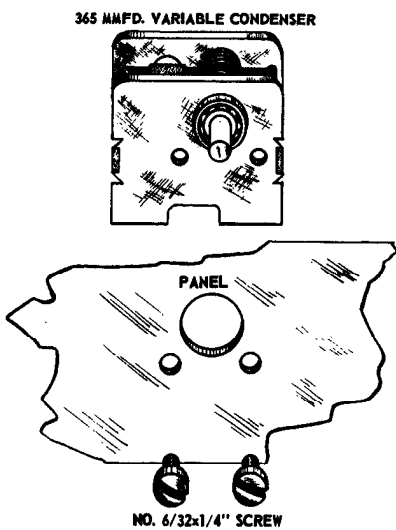

Figure 7.
- 47. Mount the FINAL PL. TUNE condenser TC-1 on the rear of the panel as per Fig. 7. Slip a #6 lockwasher over each of two 6-32x1/4" screws. Insert the screws from the front of the panel and tighten securely.
- 48. Mount the ANT. LOAD condenser TC-2 on the rear of the panel as per Fig. 7. Use same type hardware and procedure as per step 47.